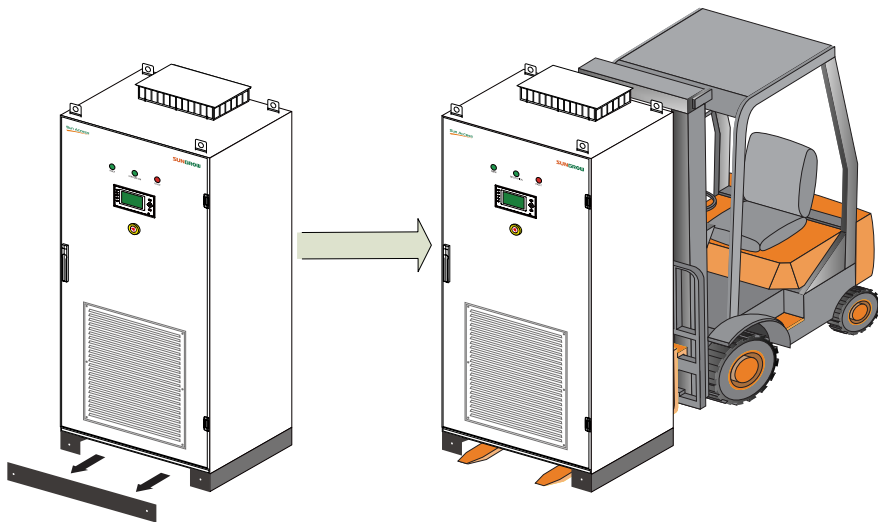

Fig. 7-3 Move the inverter by a forklift truck
- Use a forklift truck to move the inverter without wooden baseboard, see Fig. 7-3.